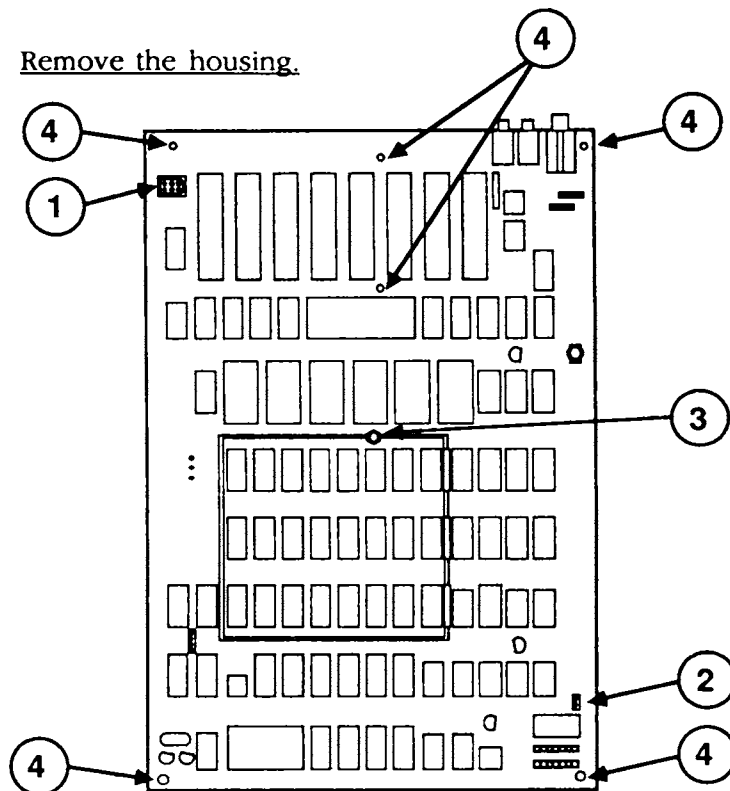

FIGURE 3
IPL.5	ProFile Interface Card (Figure 3)
2. Pinch the front and rear sides of the power supply connector (Figure 3, #1) and pull the connector from its mating socket.
3. Unplug the speaker connector (Figure 3, #2).
4. Using the nutdriver, remove the nut and lockwasher (Figure 3, #3) in the middle of the motherboard.
5. Using the needlenose pliers, push in on the flanges of the six standoffs (Figure 3, #4).